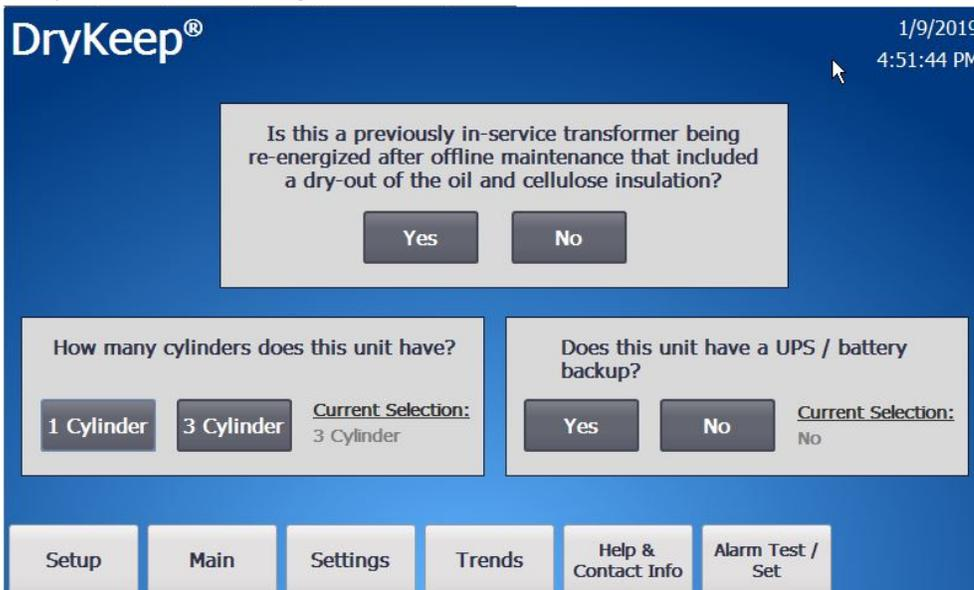

Figure 9: Second startup screen when system is ready to be put in service
- 10) If it is not a new transformer, answering “no” to the first question will bring you to the second setup screen shown in Figure 9.